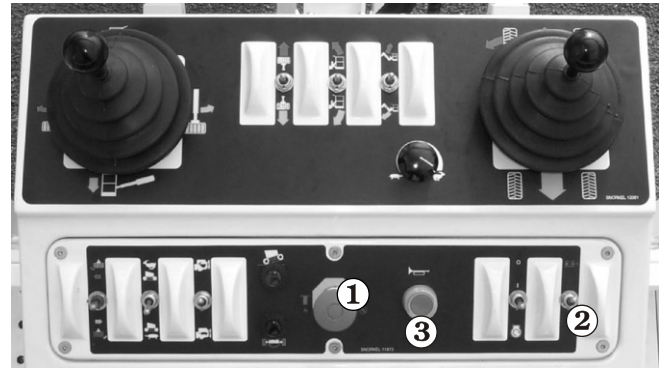

Figure 3.2—Platform Controls (Electric Controls)
Press the large red **EMERGENCY STOP** ① (refer to Figure 3.2 and 3.3) button in and the entire machine stops, the engine turns off, and nothing moves. This button must be out (on) to control the
The horn (refer to Figure 3.2 and 3.3^③) may be used to warn personnel on the ground. The horn is operational when the machine is set up for operation from the upper controls.